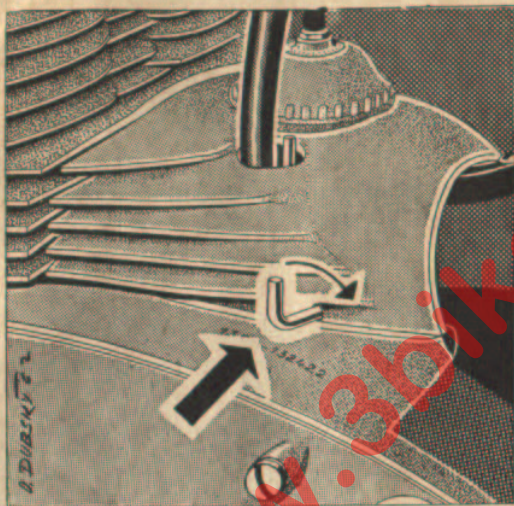

Fig. 10 - Butterfly air valve positions (350 c. c.)
- a) Open the fuel tap (turn the lever downwards) and on the motorcycle 250 c. c. turn the choke ring located at the twist grip (Fig. 9). In case of the motorcycle 350 c. c. close the carburettor air-intake by turning the air cleaner strangler (Fig. 10) and flood the carburettor by pressing down the tickler pin. It is quite useless to flood the carburettor until fuel overflows to the induction silencer where it may catch fire.